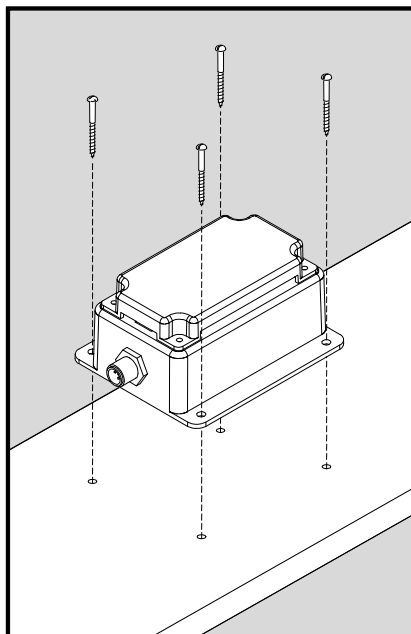

Figure 1 – Mounting the SIM100
Attach the SIM100 securely to the vessel using the included stainless steel mounting screws or other fasteners as shown in Figure 1 below. Do not use threadlocking compounds containing methacrylate ester, such as Loctite Red (271), as they will cause stress cracking of the plastic enclosure.